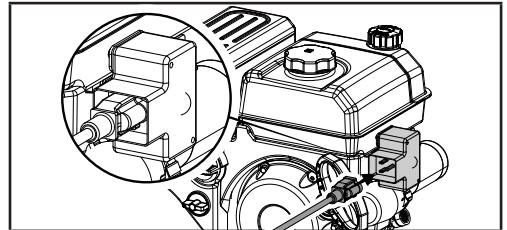

Figure 11D
7. Alternatively for electric start, plug in the supplied electrical cord into the starter. Press the electric start button and make sure that the main supply voltage is 120 V~ 60 Hz (Fig. 11D).